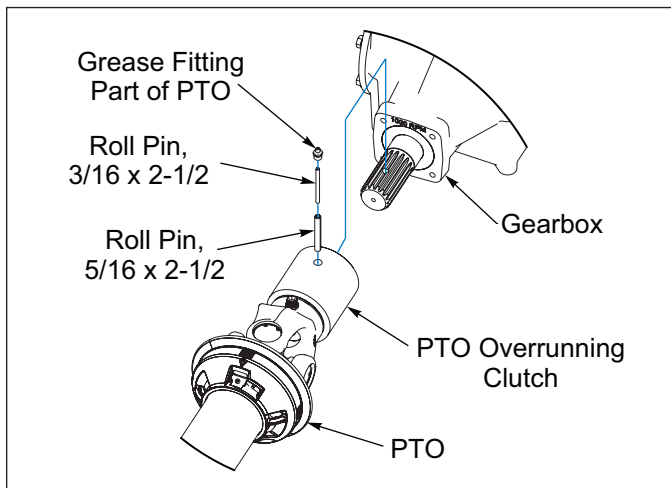
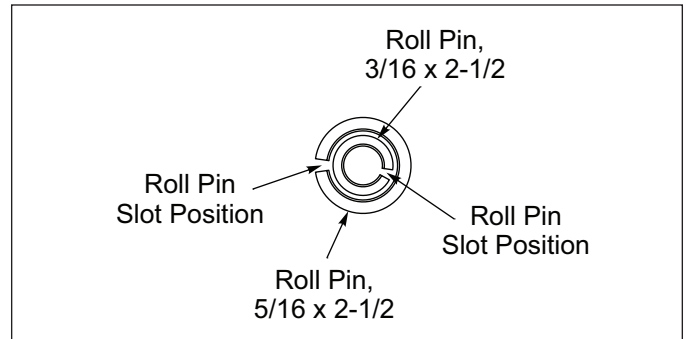

Figure 2-4: PTO Installation
Figure 2-5: Roll Pin Alignment
3. Remove one of the grease fittings from the PTO Assembly Overrunning Clutch. **See Figure 2-4.** Align the hole of the Overrunning Clutch and the hole of the Gearbox Input Shaft and insert 5/16 x 2-1/2 Roll Pin. Position slot in 3/16 x 2-1/2 Roll Pin opposite the 5/16 x 2-1/2 Roll Pin and insert 3/16 Roll Pin into 5/16 Roll Pin. **See Figure 2-5.** The Roll Pins must be engaged through the Gearbox Input Shaft and both sides of the PTO Overrunning Clutch to permit rotation of the PTO Overrunning Clutch. Install the removed Grease Fitting.